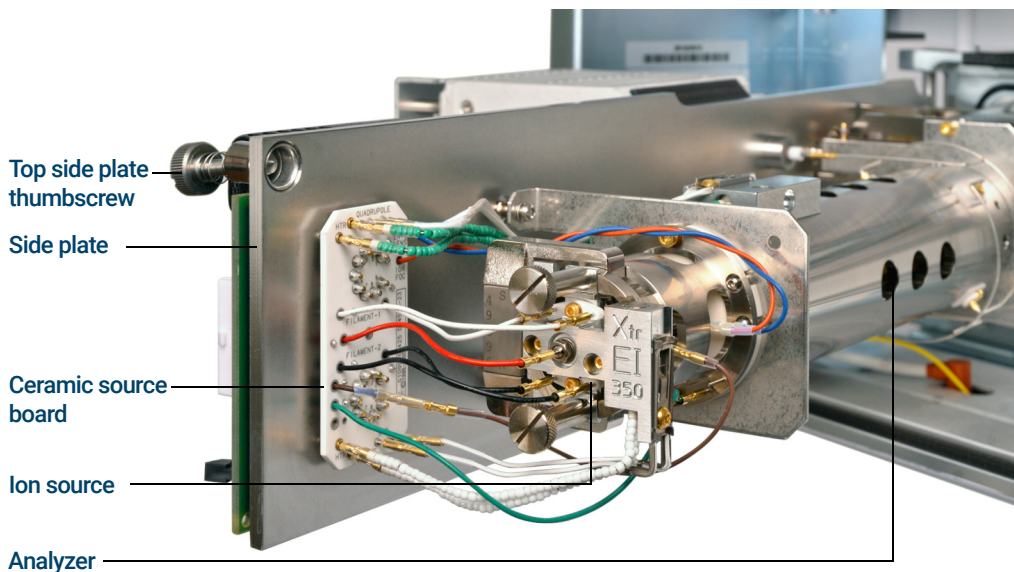

Figure 45. The analyzer chamber for an Inert+ model MSD
- 3 Loosen the analyzer side plate thumbscrews if they are fastened. (See **Figure 45** on page 150.)